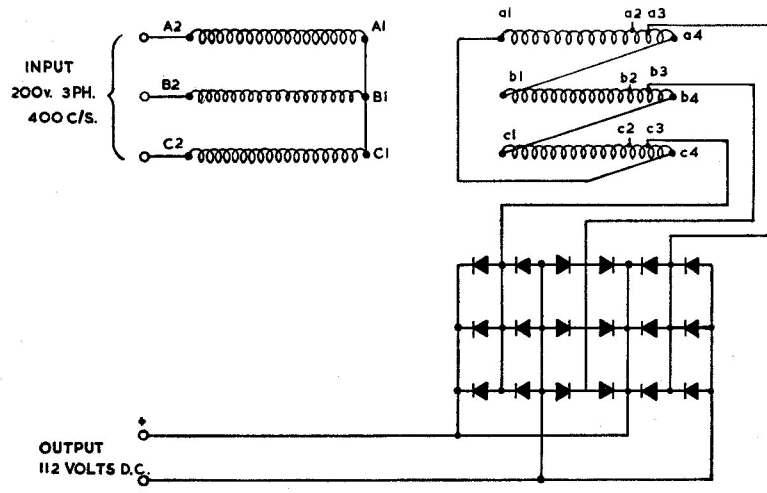

Fig. 3. Diagram of connections
7. A diagram of connections is shown in *fig. 3*. Terminals A, B and C in the terminal block are for the 3-phase input, whilst terminals Nos. 1 and 2, in the breeze plug are for the d.c., output, No. 1 being positive. The 3-phase input is first stepped down in the transformer and then rectified to give the required d.c. output.